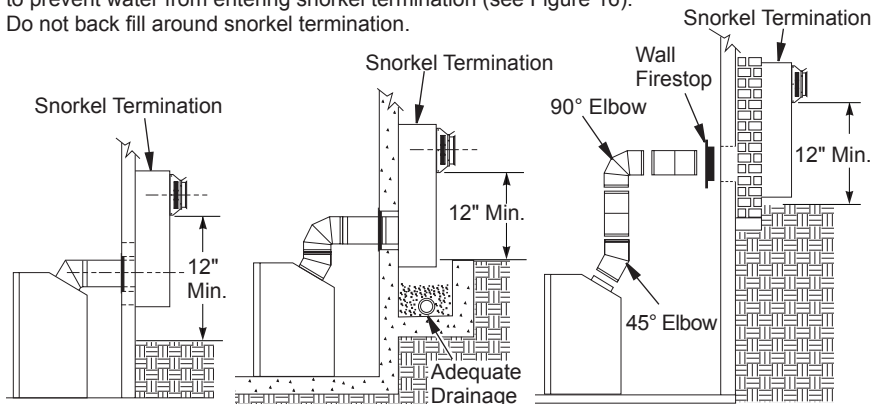

Figure 16 - Snorkel Termination Configurations for Below Ground Installation
- Snorkel terminations are required when minimum clearance to grade cannot be met (see Figure 16 on page 13).
Snorkel terminations are available for installations requiring a vertical rise on the exterior of the building. If installing snorkel termination below grade, you must provide proper drainage to prevent water from entering snorkel termination (see Figure 16).